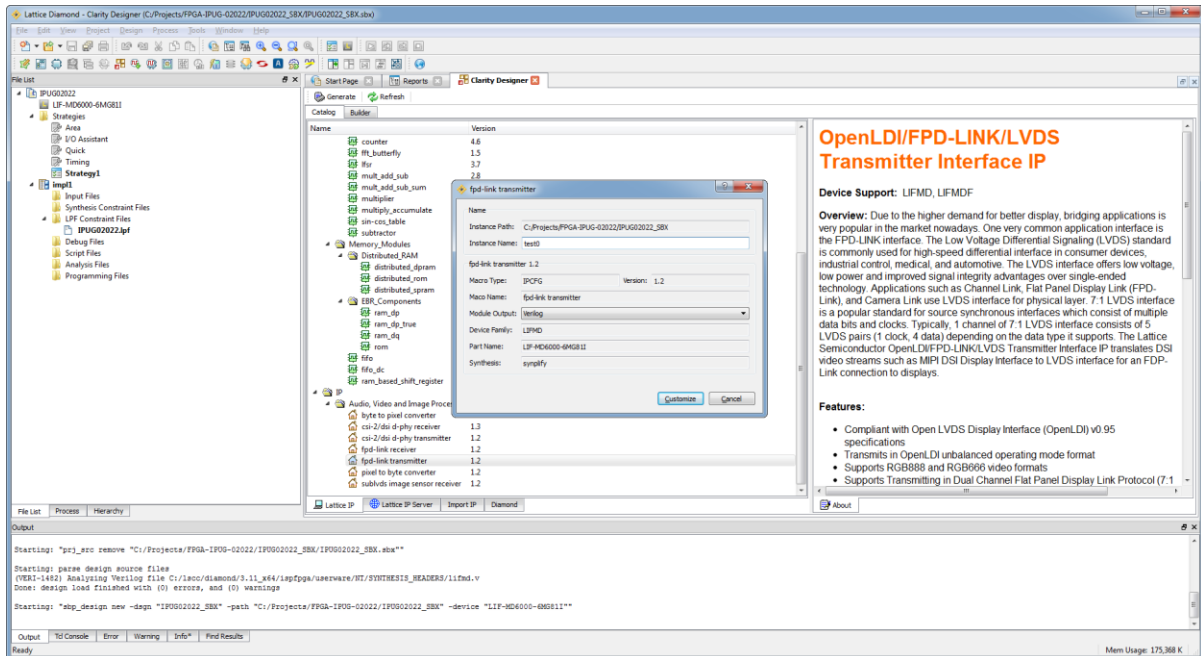

Figure 5.3. Configuring OpenLDI/FPD-LINK/LVDS Transmitter Interface IP in Clarity Designer
1. Double-click **FPD-LINK TRANSMITTER** in the IP list of the System Catalog view. The **fpd-link transmitter** dialog box is displayed as shown in Figure 5.3.